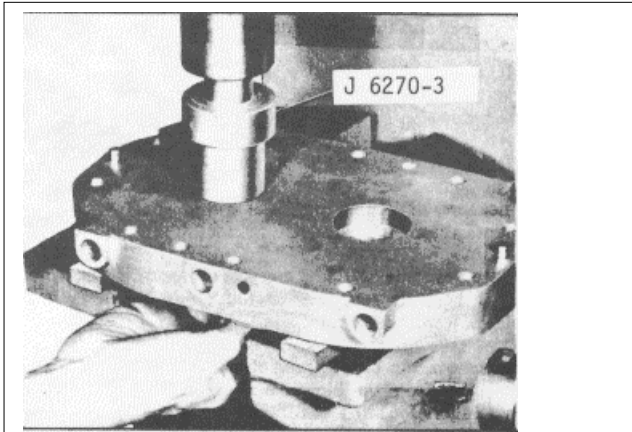

Fig. 4
- (h) Refer to Fig.4 and support the outer face of the blower end plate on wood blocks on the bed of an arbor press.
- (i) Place the long end of the oil seal remover and installer J 6270-3 down through the oil seal ring collar and into the bearing, with the opposite end of the remover under the ram of the press (Fig. 4).Then press the bearing and oil seal ring collar out of the end plate.